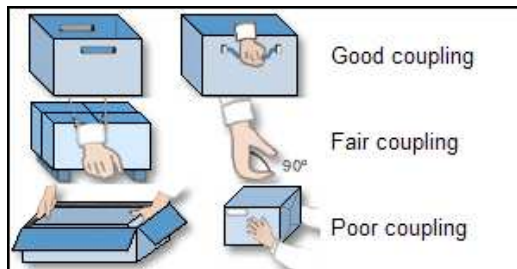

Figure 8: Coupling categories
- **Coupling.** Select the load coupling from the pull-down menu, taking the following into consideration (Figure 8):